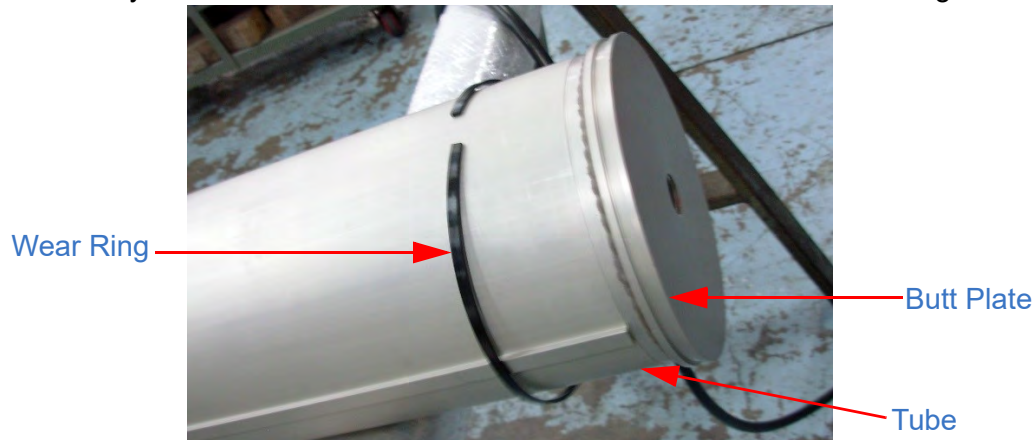

Figure 8-12 Wear Ring Loose on Tube
3. Slip the appropriate sized wear ring onto the tube past the butt plate (Figure 8-12). Leave it loose and easily accessible. For 9.12 and 10.00 inch tubes, use both wear rings.